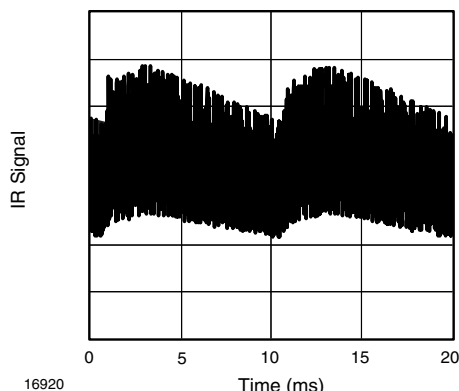

Fig. 13 - IR Signal from Fluorescent Lamp with Low Modulation
- Strongly or weakly modulated noise from fluorescent lamps with electronic ballasts (see figure 12 or figure 13)